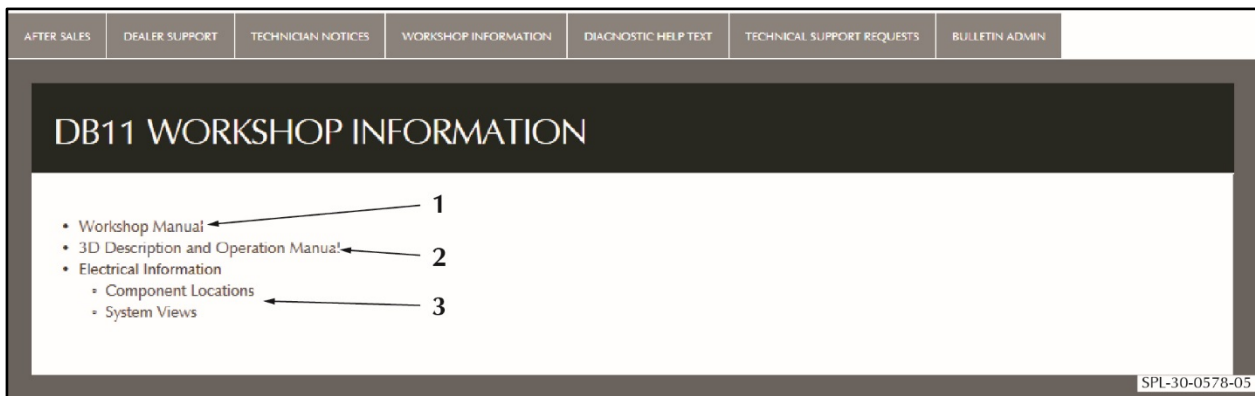

Figure 2
1. A list of workshop data for that model will show (refer to Figure 2). There are links to the following manuals: The Workshop Manual